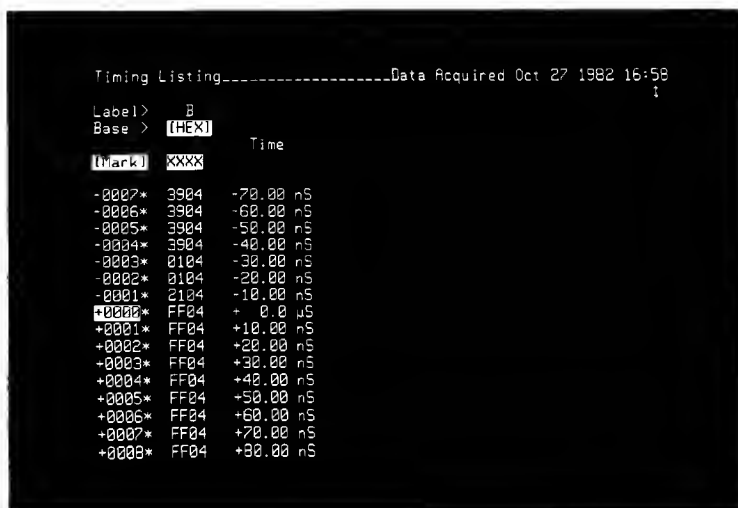

Figure 3-34. Timing Listing Display
22. Press the LIST key. The display will show a listing of the timing activity. See figure 3-34.